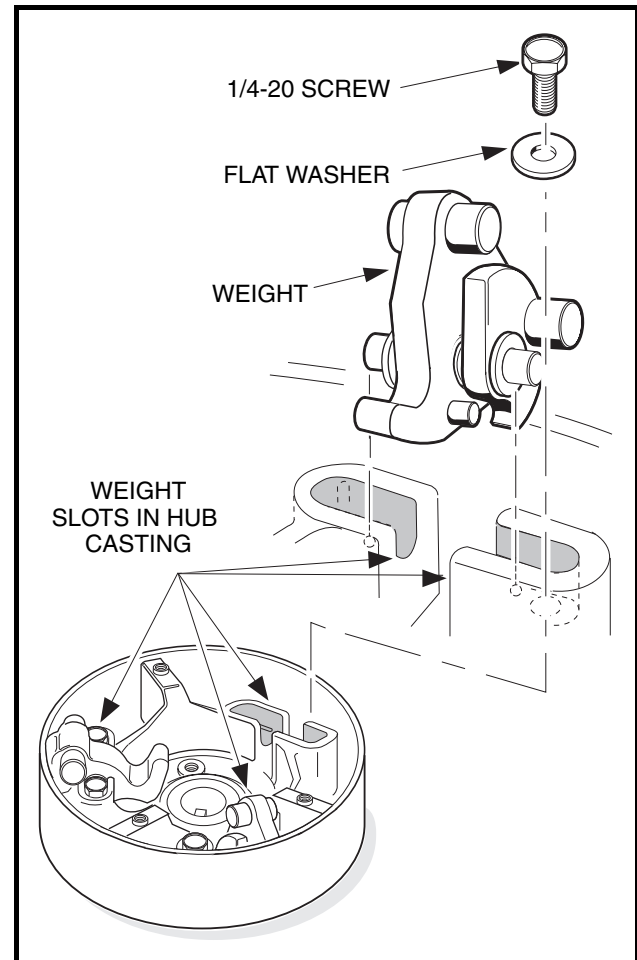
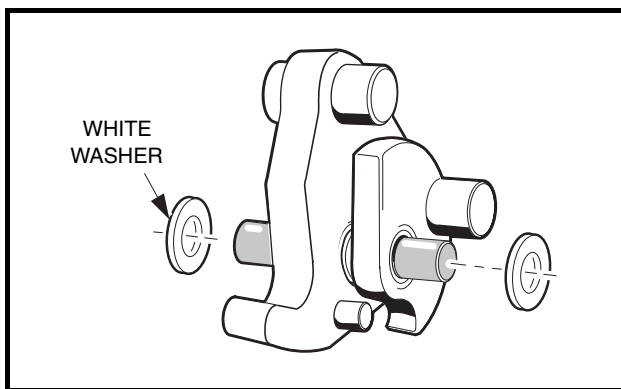

Figure 17-11 Weight Position
Figure 17-16 Install White Washers
5. Remove the clutch weights (**Figure 17-11, Page 17-8**):
- 5.1. Remove the screws and flat washers attaching the weights as shown (**Figure 17-11, Page 17-8**).
10. Install white plastic flat washers on each end of the mounting pin and push them against the outside surfaces of the weights. Center the weights and washers on the mounting pin (**Figure 17-16, Page 17-11**).
11. Install the weight assemblies into the slots in the hub casting (**Figure 17-11, Page 17-8**). Make sure the mounting pin protrudes an equal amount on each side of the weights when the assemblies are in position (**Figure 17-16, Page 17-11**).